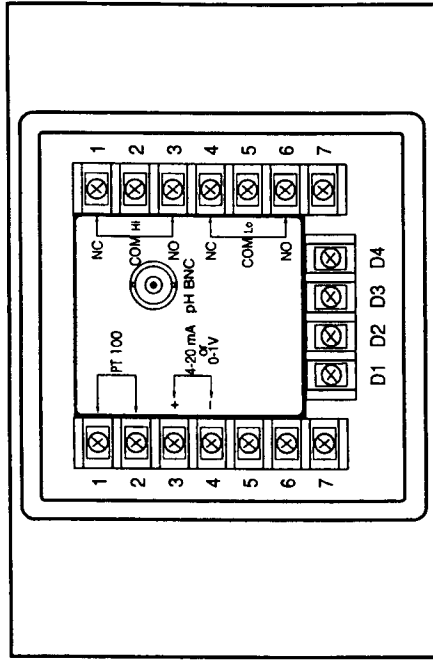

Figure 2-3. Rear Panel Connections
Connect ac power to the proper terminals (refer to Figure 2-3). "D3" is hot, "D2" is neutral, and "D1" is ground. For 220 Vac operation, "D4" is hot, "D2" is neutral, and "D1" is ground.
2. If using Automatic Temperature Compensation (ATC), connect the 100 ohm Pt RTD leads of the temperature probe to Terminals 1 and 2 (no polarity - see Figure 2-3).